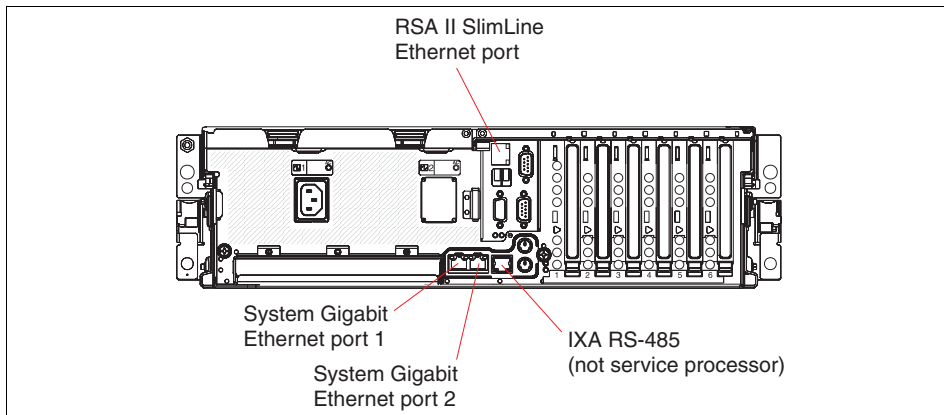

Figure 2-12 Rear ports of the x366
- ▶ x366: Figure 2-12 on page 21